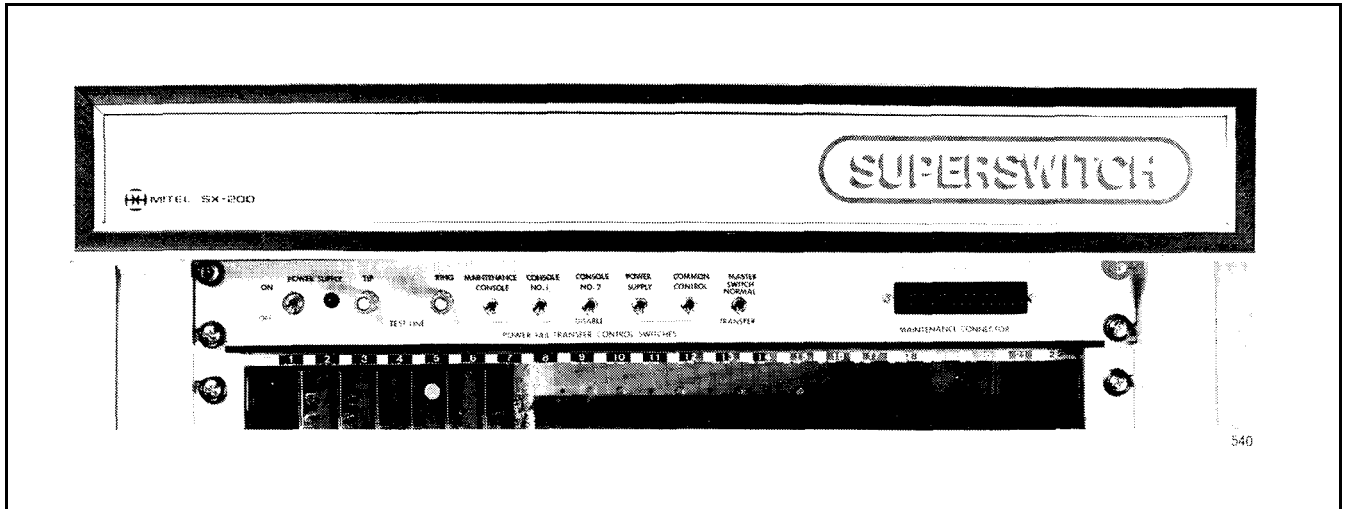

Fig. 2-5 Maintenance Panel
2.08 The maintenance panel (Fig. 2-5) measures 2in. (51mm) high, 19in. (480mm) wide, and 2in. (51mm) deep with a total weight of 2.1lbs (0.9kg). The maintenance connector on the right of the panel permits the service personnel to perform maintenance tasks and enter new, or modify existing customer data using the maintenance console. The test line terminals on the panel allow the use of a standard hand test-set (butt-in) to establish calls through the system using preselected circuits. The power switch controls the application of power to the equipment shelves.